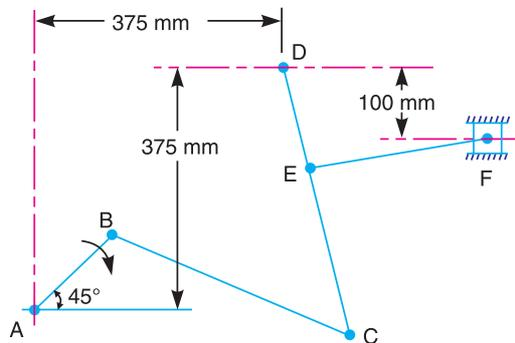

Fig. 7.11
**Example 7.4.** The mechanism, as shown in Fig. 7.11, has the dimensions of various links as follows :